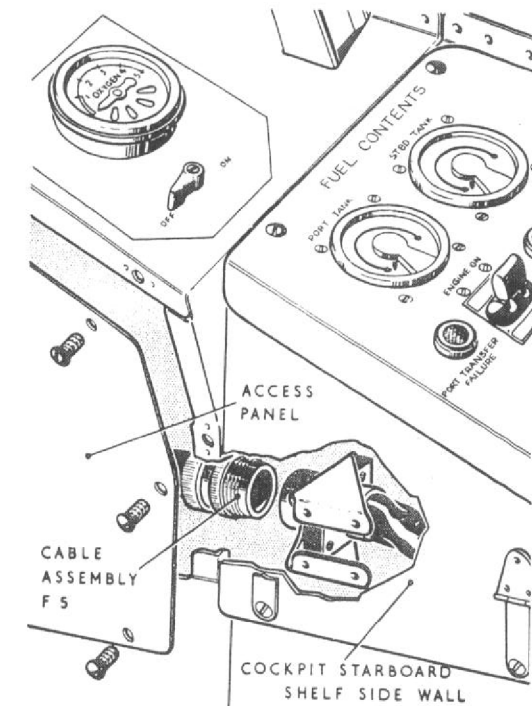

Fig.4 Plug at forward end of cockpit starboard shelf
- (1) Render the aircraft electrically safe, as described in Group A.1.
- (2) Disconnect all the plugs and sockets on the cable assemblies at the end plate at the rear end of the shelf. Seal off the plugs and sockets with approved caps and covers and stow the cable assemblies away from the shelf.
- (3) Disconnect cable assemblies F33 and F34 from the A.C. junction box, fit approved caps and covers to the plugs and sockets and coil back the cable assemblies to the starboard shelf.
- (4) Disconnect cable assembly F5 from the plug mounting bracket at the forward end of the shelf (*fig.4*). Seal off the plug and socket with an approved cap and cover. Stow the cable